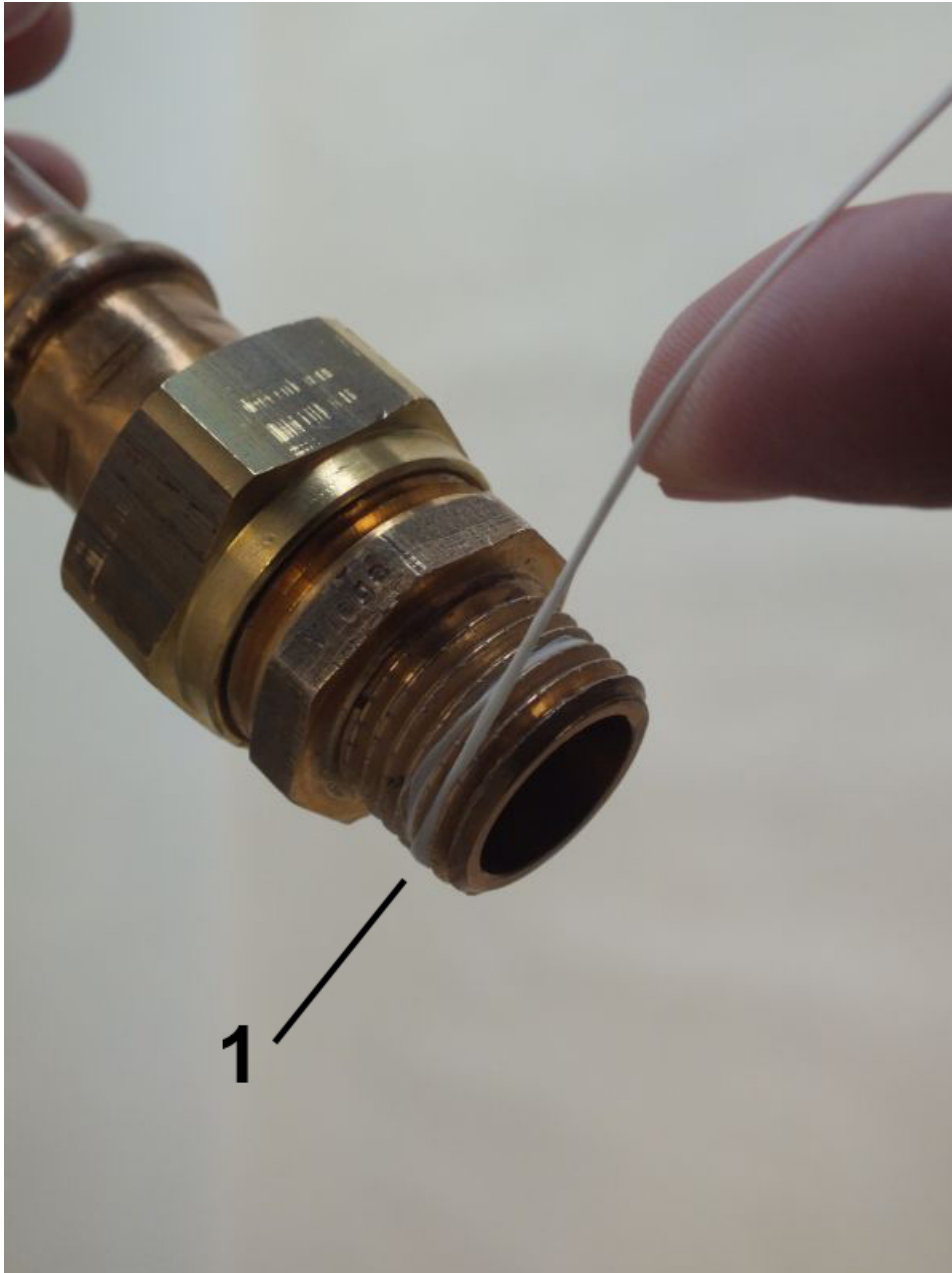

Fig. 10: Apply sealing thread
- 2.** Apply sealing thread (Fig. 10/1) to the napped thread in the threaded direction. Observe the quantity recommended by the sealant manufacturer.